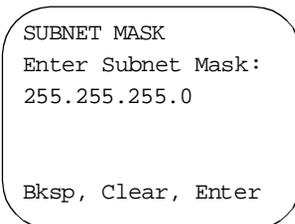

Figure E-4. Subnet Mask Screen
3. Select **Subnet Mask** from the main configuration menu. The *Subnet Mask* screen (Figure E-4) is displayed.